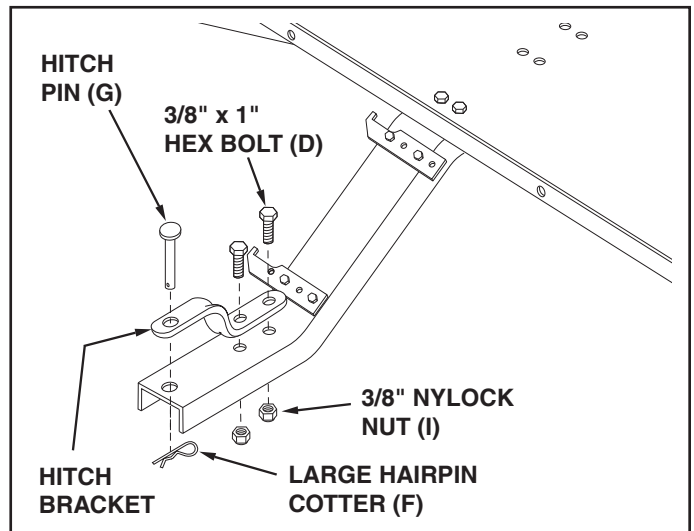

FIGURE 7
9. Assemble the hitch bracket to the tongue using two 3/8" x 1" hex bolts (D), and two 3/8" nylock nuts (I). **Tighten.** See figure 7.
10. Assemble the hitch pin (G) through the hitch bracket and the tongue. Secure the hitch pin with the large hairpin cotter (F). See figure 7.